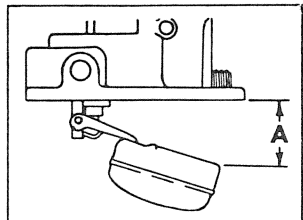

FIGURE 2
V. FLOAT DROP ADJUSTMENT. (See figure 2.)
FLOAT DROP Fig. 2